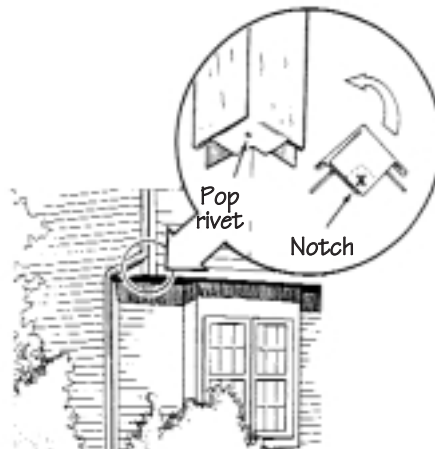

Figure 76.
- Drill a 1/8" hole in the center, through both layers of vinyl, and install a pop rivet to hold them in place. Cut a notch in both layers to allow clearance for the corner (Fig. 76).